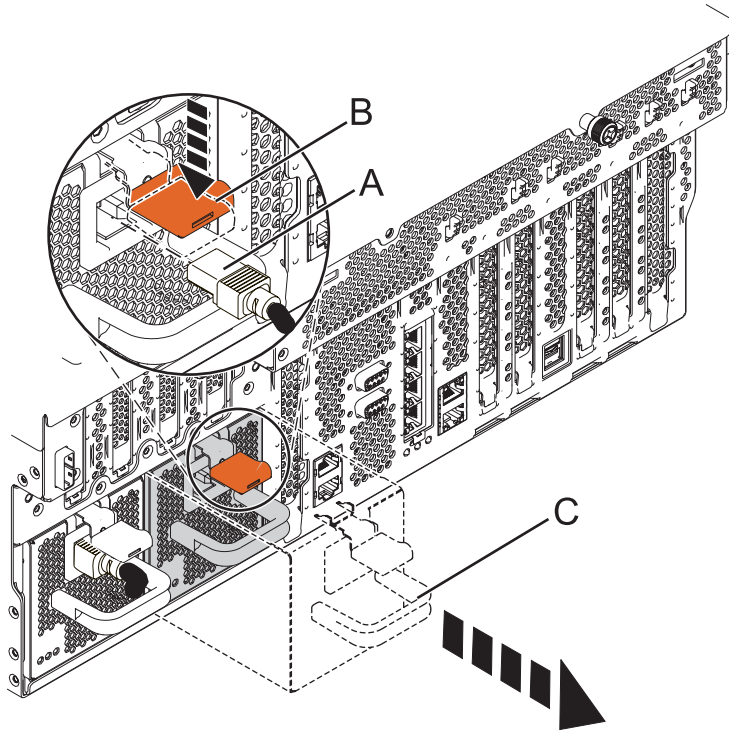

Figure 4. Removing the power supply
5. Disconnect the power cable (A) from the front of the power supply as shown in Figure 4 on page 6.
6. Press down on the locking latch (B) as shown in Figure 4 on page 6.